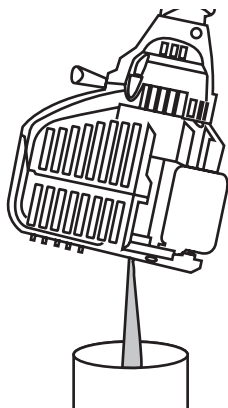

Fig. 43
3. Pour the oil out of the oil fill hole and into a container by tipping the unit to a vertical position (Fig. 43). Allow ample time for complete drainage.